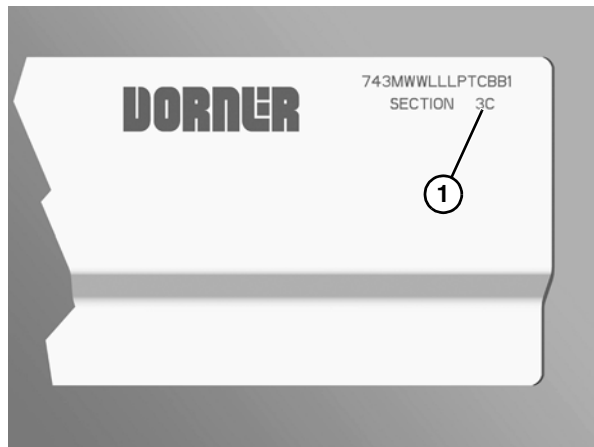

Figure 6
1. Locate the section number sequence etched on each section of frame (**Figure 6, item 1**).